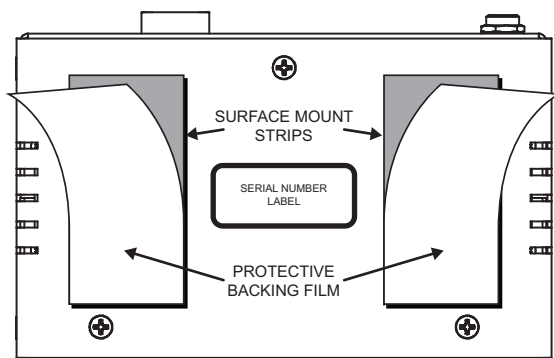

Figure 2 Surface Mount Installation Option
2. Adhere the **Surface Mount Strips** to the bottom side of the chassis **Figure 2**.